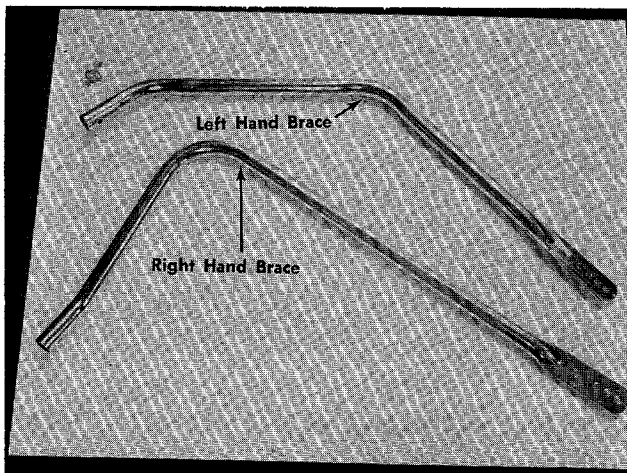

**FIGURE 5 LOWER HANDLE ASSEMBLY**
- b. Place two (2) flat washers  $\frac{3}{8}$ " I.D. x  $1\frac{1}{4}$ " O.D. between the handle and frame only on the right hand side. See figure 5.
- c. Secure the right hand side of lower handle with one (1) Hex Hd. Bolt  $\frac{3}{8}$ -16 x 1" Long.